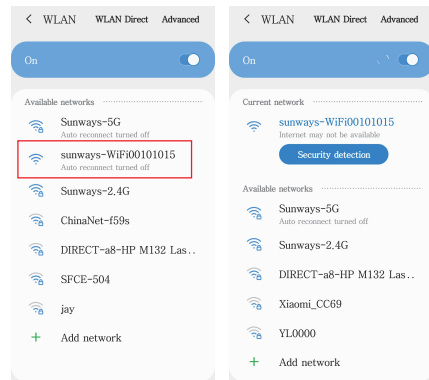

Figure 17
D. WiFi connection succeeded as shown in Figure 17.